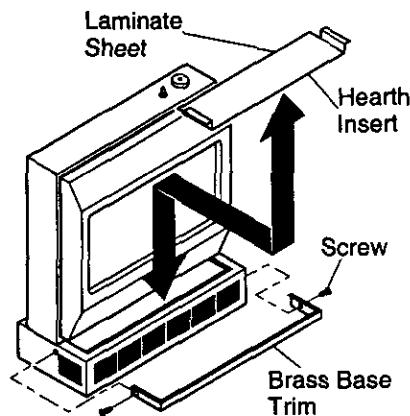

Figure 19 - Placing Hearth Insert on Heater Base and Attaching Brass Base Trim
6. Place hearth insert in hearth base as shown in Figure 19.
8. Slide base trim on heater base. Attach brass trim to base with two brass screws included as shown in Figure 19 below.